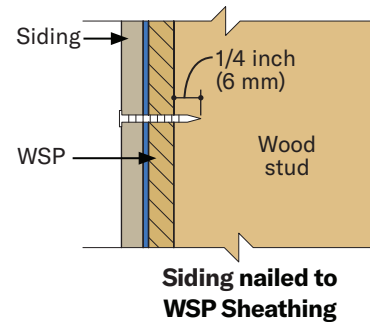

Figure 8a
- Siding may be nailed to SIP assembly or WSP sheathing. (Figure 8a)